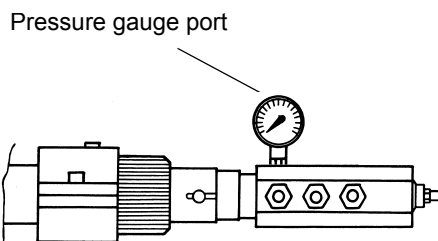

Fig. 19
- 9 the nozzle supply pressure is already factory-set and must not be changed. Only if necessary, adjust the supply pressure as follows (see related paragraph); insert a pressure gauge into the port shown on Fig. 19 and act on on the pump adjusting screw **VR** (see Fig. 18) as to get the nozzle pressure at 25bar (see diagram on page 41).